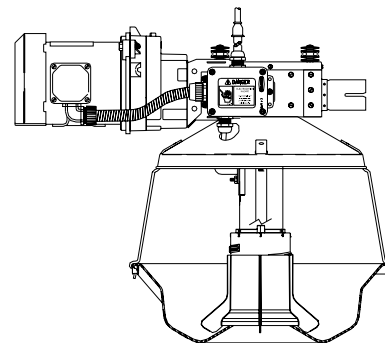

Figure 33. Switch Installation
7. Insert the flex cable that is attached to the control switch through the hole in the control unit pan shield and attach the romex connector to the handy box, see **figure 33**.